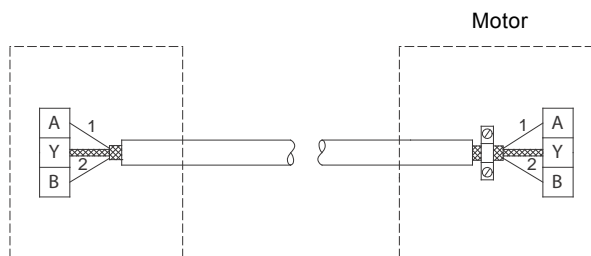

Fig. 13 Connection with screened 2-core cable
- If a screened 2-core cable is used in the existing installation, connect the cable as shown in fig. 13.